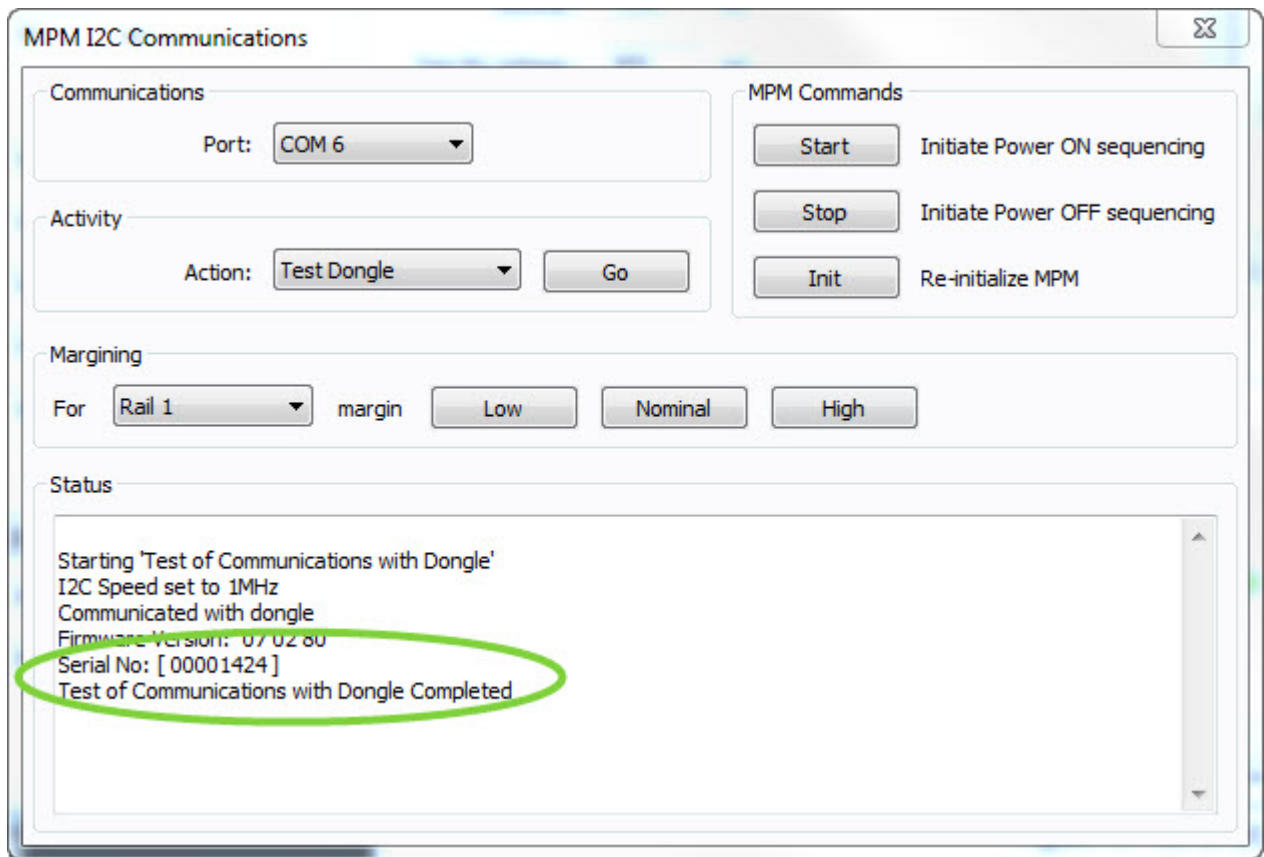

Figure 15 · MPM I2C Communications **Success**
11. Select **Test Dongle** from the **Activity > Action** drop-down list and click the **Go** button. If the test is successful, the **Status** text box will look similar to Figure 15. **Note:** A serial number must be generated or the wrong COM port was selected.